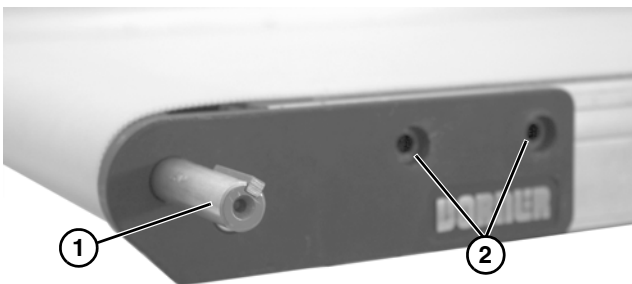

Figure 7
3. Locate drive output shaft (Figure 7, item 1) and remove two (2) screws (Figure 7, item 2).